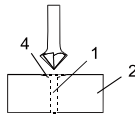

Fig. 9
4. Enlarge the hole (1) in the outer piece (2) so it is the same size as the smooth portion of the screw shank (Fig. 9).
5. If using a flat head screw, counter-sink the hole (4) so the head of the screw will be flush with the surface when fully driven into place.